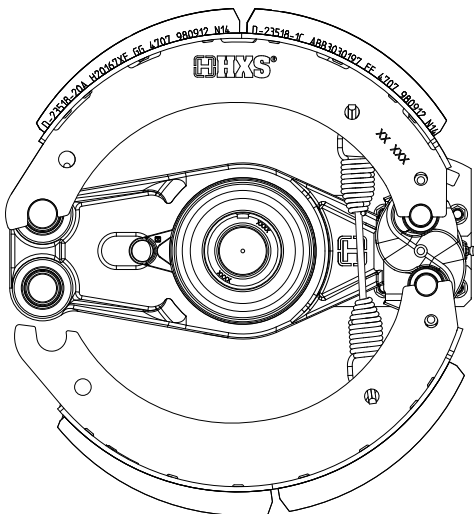

Figure 48: Lower brake shoe on S-cam
8. **Position** the lower brake shoe roller on the S-cam (Figure 48).